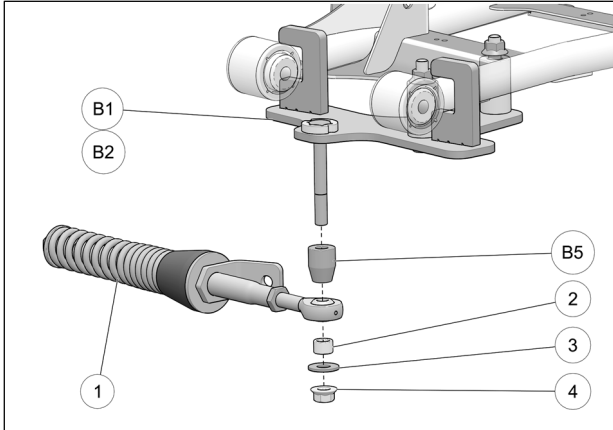

Fig. 10
10. Attach the rear suspension stabilizing rod (1) to anchor plate (B1-B2) using tapered bushing (B5), straight bushing (2), washer (3) and nut (4). Torque to 50 N•m [37 lb•ft]. See Fig. 10